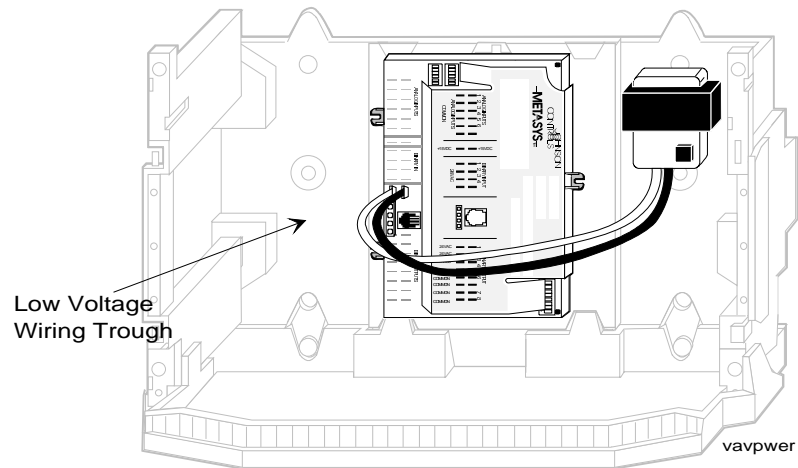

Figure 6: EWC10 Enclosure with VAV Controller and 50 VA Transformer
1. Orient the VAV so that its terminals face the low voltage wiring trough (Figure 6).